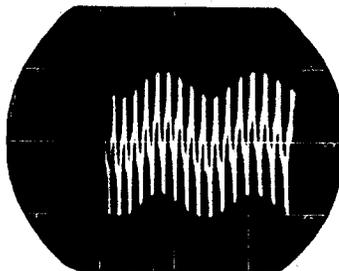

Figure 3.
(2) Adjust the 1000 cps input signal level for 1 volt and note the resultant combined deviation of the 1000 cps modulation and tone signal modulation on the oscilloscope.
(3) The IDC control on the transmitter should be adjusted to provide peak-to-peak combined signal of 10 squares, equivalent to full 5 kc as shown in figure 3. Wide band units should be adjusted for 30 squares peak-to-peak (± 15 kc).